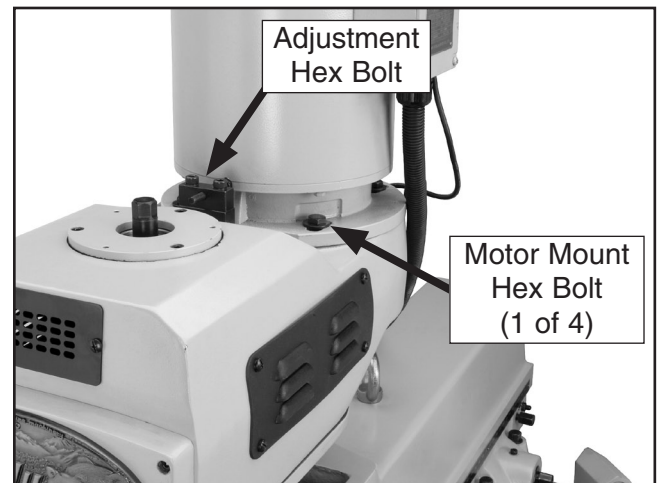

Figure 61. Motor mount and drive belt tension adjustment hex bolts.
4. Loosen the four motor mount hex bolts (see **Figure 61**).